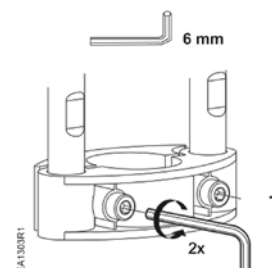

Figure 2. Hex Head Cap Screws.
1. Using a 6 mm hex wrench, loosen the two hex head cap screws on the bonnet connection. See Figure 2.